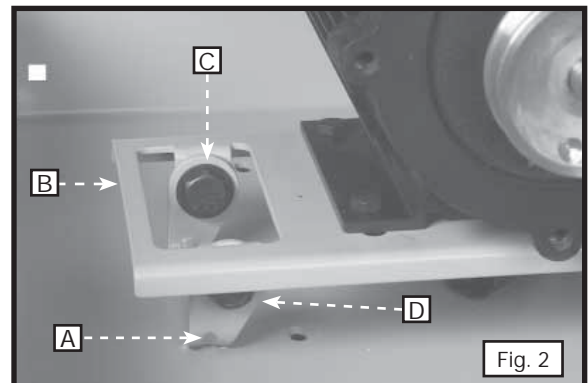

Fig. 2
1. Locate the welded bracket (A) Fig. 2 underneath the top shelf of the stand.
2. Align the holes in the motor attachment bracket (B) with the holes in the welded bracket (A).
3. Insert the hex head bolts and flat washers (C) in the holes from the inside out.
4. Use an 11/16" open-end wrench to tighten the locknuts (D) on the hex head bolts. Keep the hex head bolts from turning with an 11/16" socket wrench.